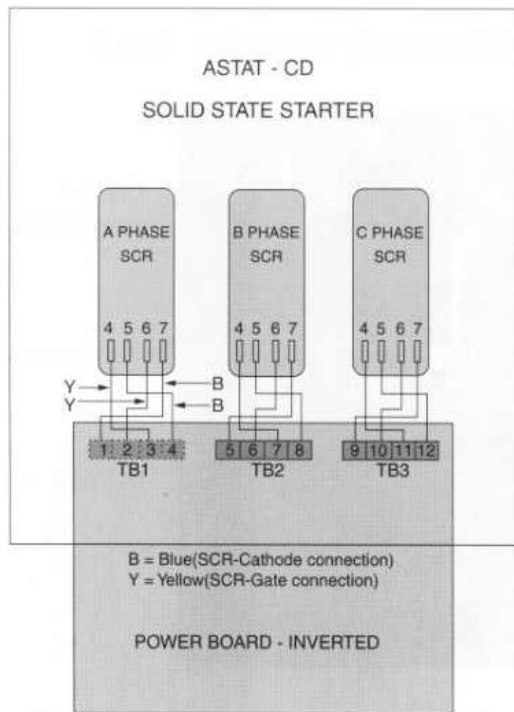

Figure 8. Gate lead connections for sizes K, L, and Y.
7. Reconnect the red and white gate wires to the four-point Terminal Boards, one on the component side and two on the solder side of the Power Supply Board, as illustrated in Figures 8, 9, and 10.